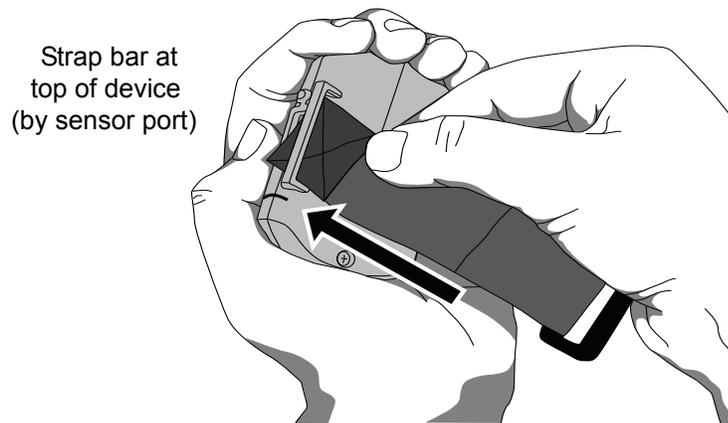

Figure 6: Thread Ring Strap
4. Thread square end fastener through the strap bar by the sensor port. Start from the back of the device and thread it towards the front of the device (figure 6).